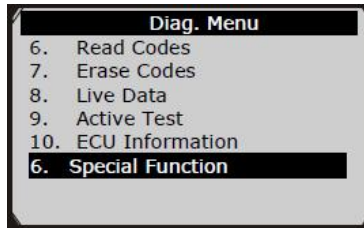

Figure 8.20
- 1) In the **Diagnostic Menu** (Figure 8.20), use the **UP/DOWN** button to select **Special Function** to do the ABS test. The scan tool displays as below.
- 1) In the **Diagnostic Menu** (*Figure 8.20*), use the **UP/DOWN** button to select **Active Test** to do the actuator test. The scan tool displays as below.